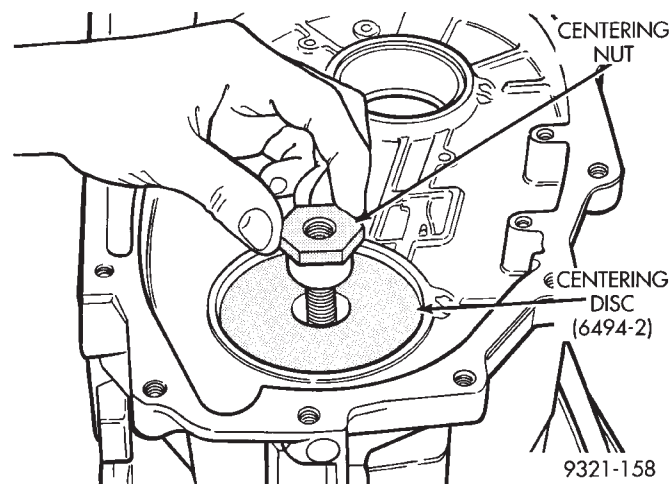

Fig. 255 Installing Centering Nut
(6) Install centering nut as shown in (Fig. 255).